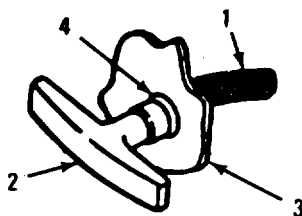

Figure 4-13. Recoil Starter Rope T-Handle
- (13) Refer to Figure 4-13. Grasp rope (1) firmly and pull the knot 6 inches out of T-handle (2). Untie the knot in the rope.
- (14) Pull rope (1) through, and free of, T-handle (2) and sound enclosure front panel (3) grommet (4).
- (15) Push rope (1) through the hole in T-handle (2) and retie the knot.
- (16) Allow the rope to rewind until T-handle (2) seats on the starter case.
(Refer to Figure 4-13)